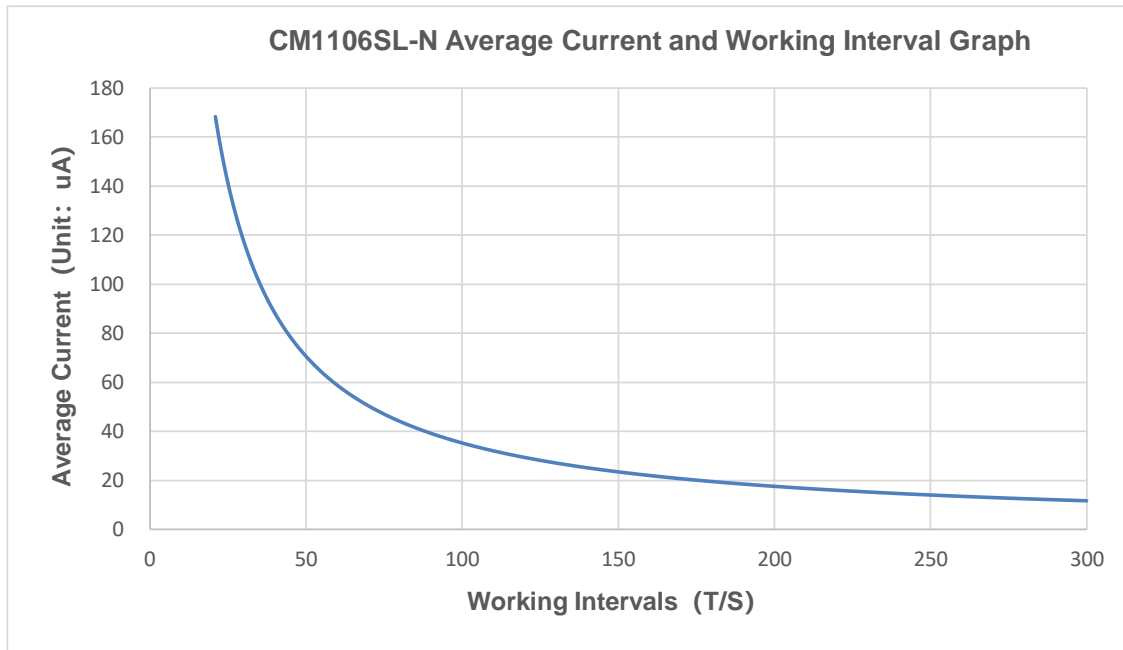

Figure 4
**Note 4:** See Figure 4 Average Current for more information under different working cycle.